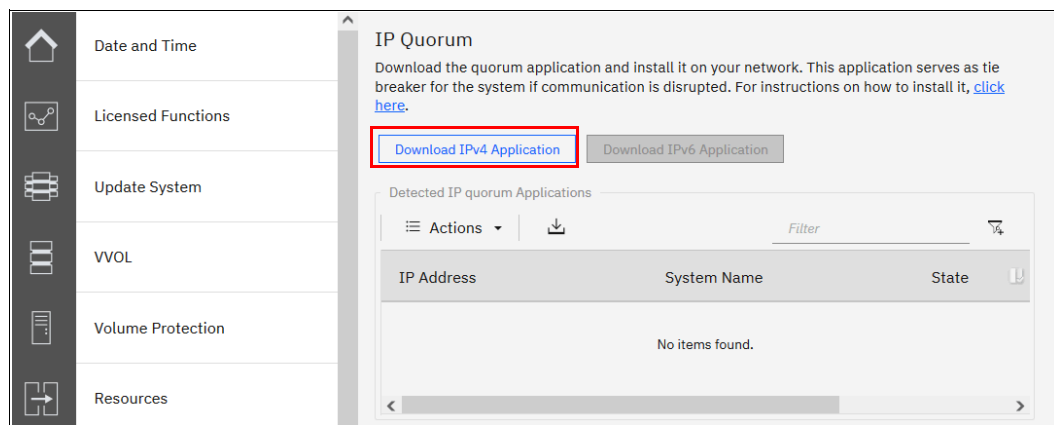

Figure 3-44 Download IPv4 quorum button
1. Select **System** → **Settings** → **IP Quorum** to download the IP quorum application, as shown in Figure 3-44. If you are using IPv6 for management IP addresses, the **Download IPv6 Application** button is available and the IPv4 option is disabled. In our example, we select **Download IPv4 Application**.